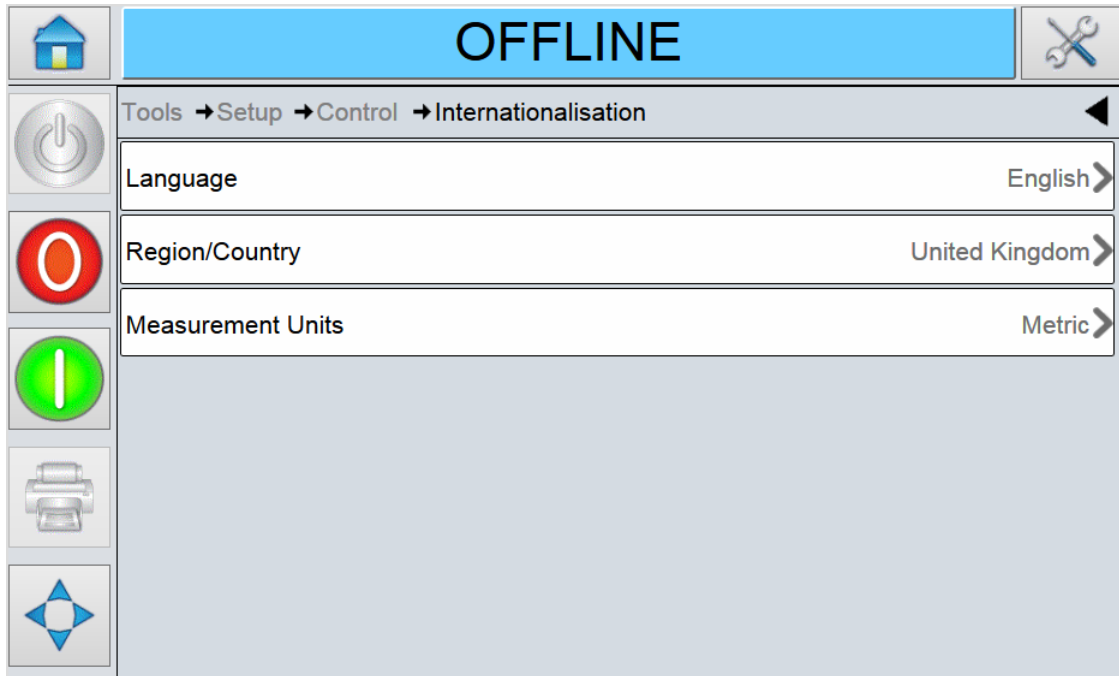

Figure 4-7: Language and Region
1. Navigate to *Tools > Setup > Control > Internationalisation*. The current language and region is displayed (see Figure 4-7).